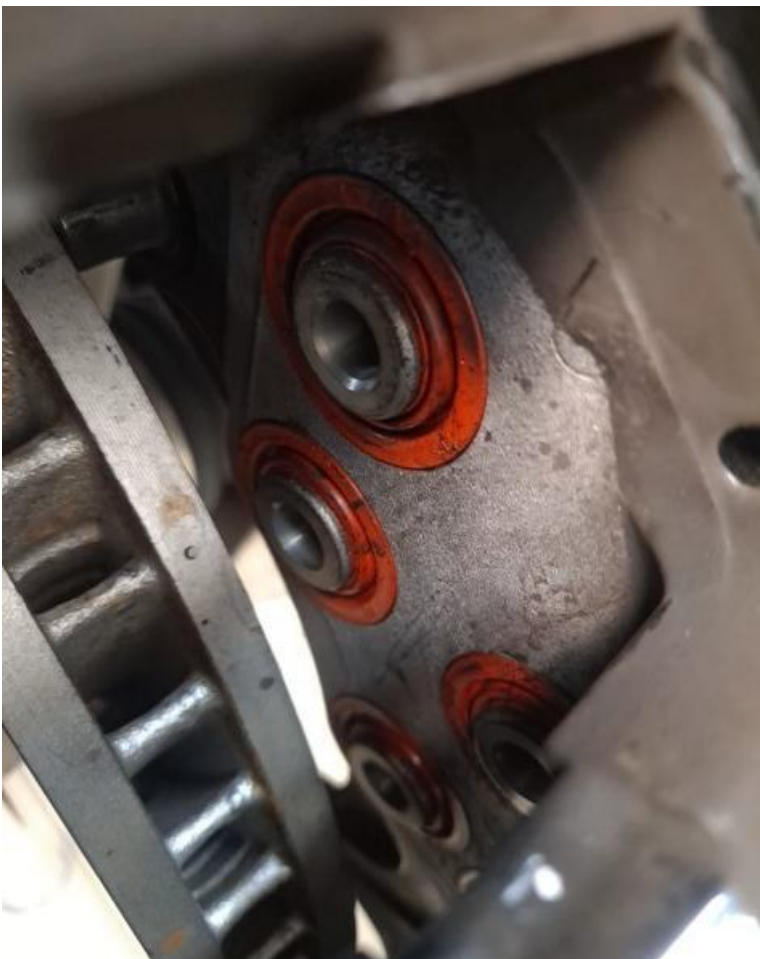

Figure 1
- Inspect the left and right front brake calliper pistons, checking for any excessive assembly wax which may be applied between the calliper and brake pad surfaces (Figures 1 and 2)